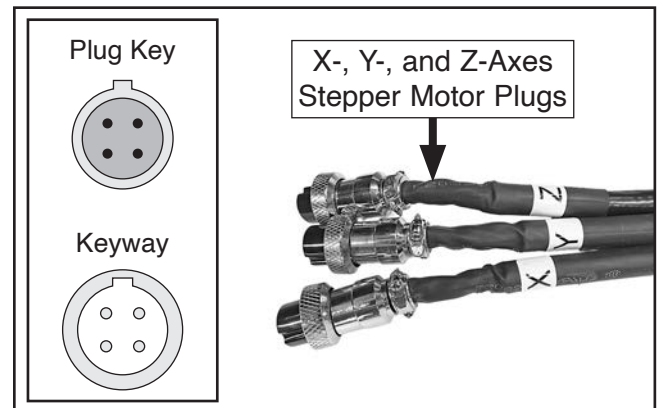
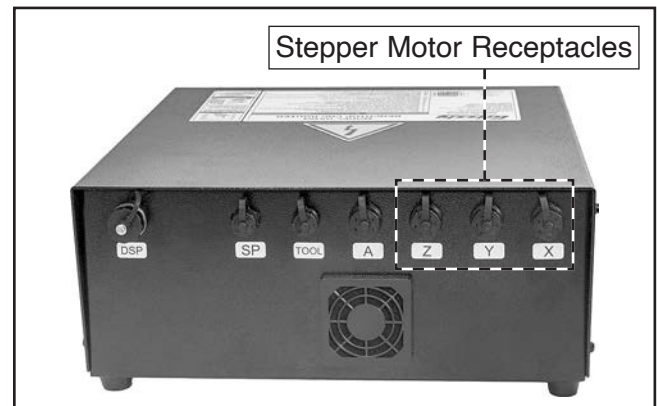

Figure 13. Location of X, Y, and Z-axes stepper motor plugs.
Figure 14. Location of stepper motor receptacles on control box.
1. Place control box near machine and connect X, Y, and Z-axes stepper motor plugs (see **Figure 13**) to matching receptacles on rear of control box (see **Figure 14**).
To prevent cross-threading plugs, verify key on plug aligns with keyway in receptacle before tightening (see **Figure 13**).